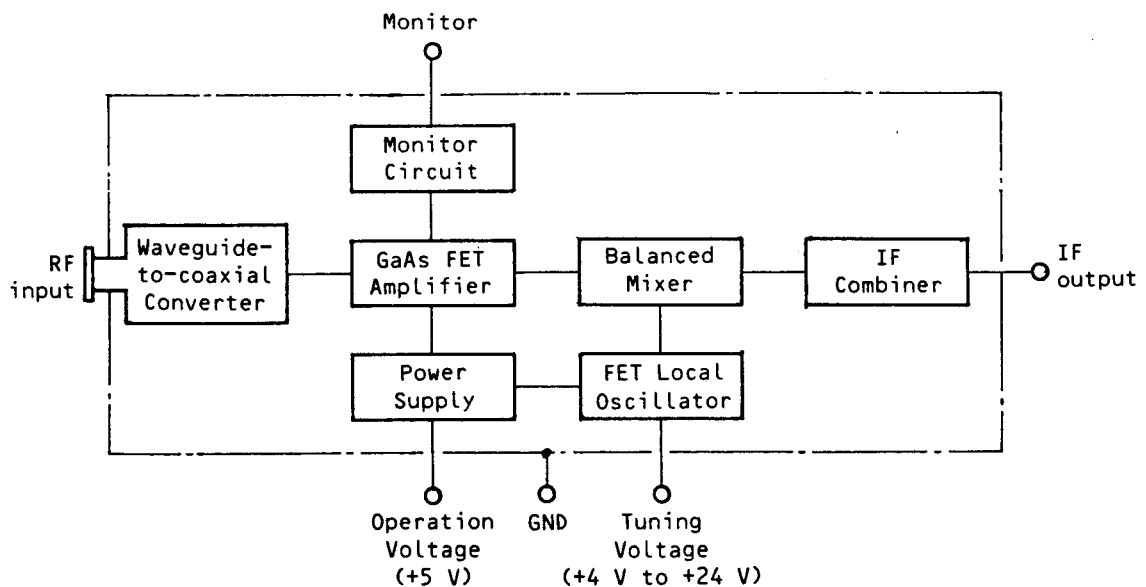

Fig. 2.1.6 Block diagram of MIC Front End Module
(1) Front end module (FEM)
A microwave integrated circuit so called MIC is used for the front end module (FEM) of the receiving section. The 10 kW output scanner MRT-133 uses the MIC type NJT1946, while 25 kW scanner MRT-134 uses type S-RX34. Both types require separate limiter, i.e. NJS6930 for MRT-133 and S-LX17 for MRT-134. The MIC mainly consists of a waveguide-to-coaxial converter, low noise front end GaAs FET amplifier, FET local oscillator, balanced mixer, monitor circuit, and power supply. All elements are mounted in a single module, making the FEM so compact. The GaAs FET amplifier directly amplifies the X-band microwave of the returned echo signal. The FET local oscillator frequency in 9,470 MHz is simply controlled by varying the tuning voltage. The balanced mixer converts the receiving signal frequency to 60 MHz intermediate frequency (IF). Fig. 2.1.6 illustrates the block diagram of MIC front end module.